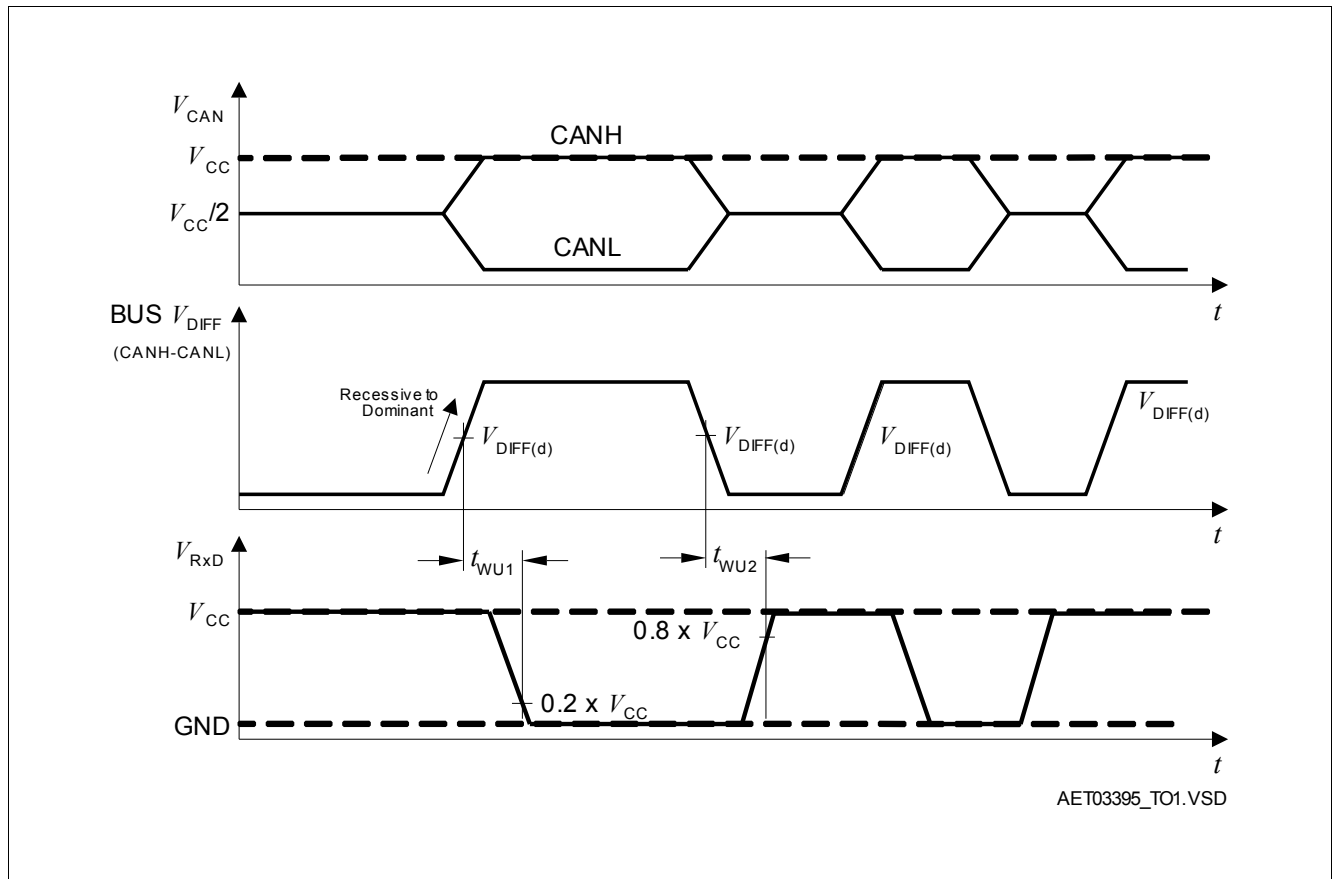

Figure 6 Wake-up behavior
1) Signal at RxD changes corresponding to the bus signal during stand by mode. See Figure 6
During standby mode, a dominant CAN message on the bus longer than the filtering time $t > t_{WU1}$, leads to the activation of the wake-up. The wake-up during standby mode is signaled with the RxD output pin. A dominant signal longer $t > t_{WU1}$ on the CAN bus switches the RxD level to LOW, with a following recessive signal on the CAN bus longer $t > t_{WU2}$ the RxD level is switched to high, see Figure 6.